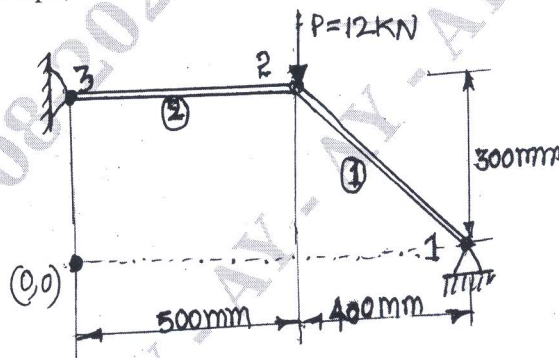

Fig Q6(b)
b. For the two bar truss shown in Fig Q6(b), determine nodal displacement and stress in element 1. Take  $E = 200\text{Gpa}$ ,  $A = 200\text{mm}^2$ .